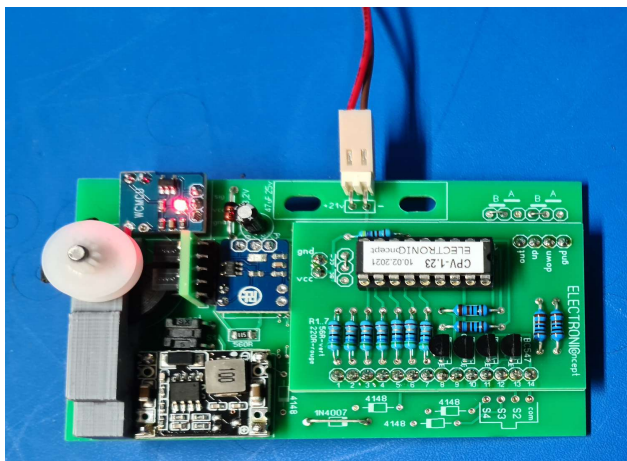

Figure 3
- Connect the cable to the Meter Plug.(Figure 3).